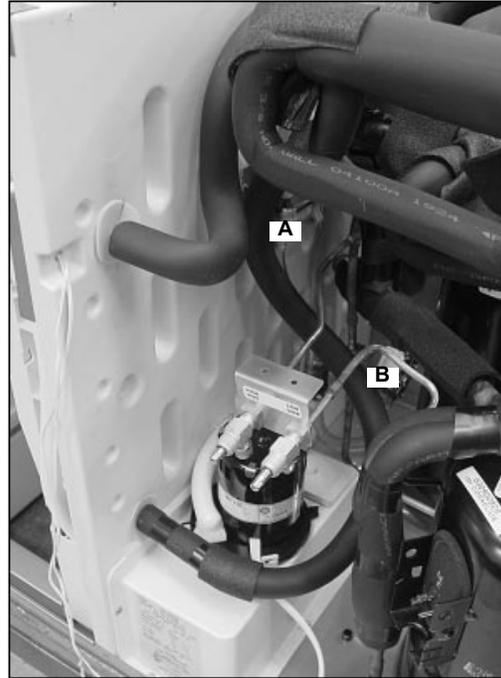

FIGURE 54
57. Connect the water fill valve harness (A) (black and white leads) and the water dump valve harness (B) (yellow and white leads) (FIGURE 54).